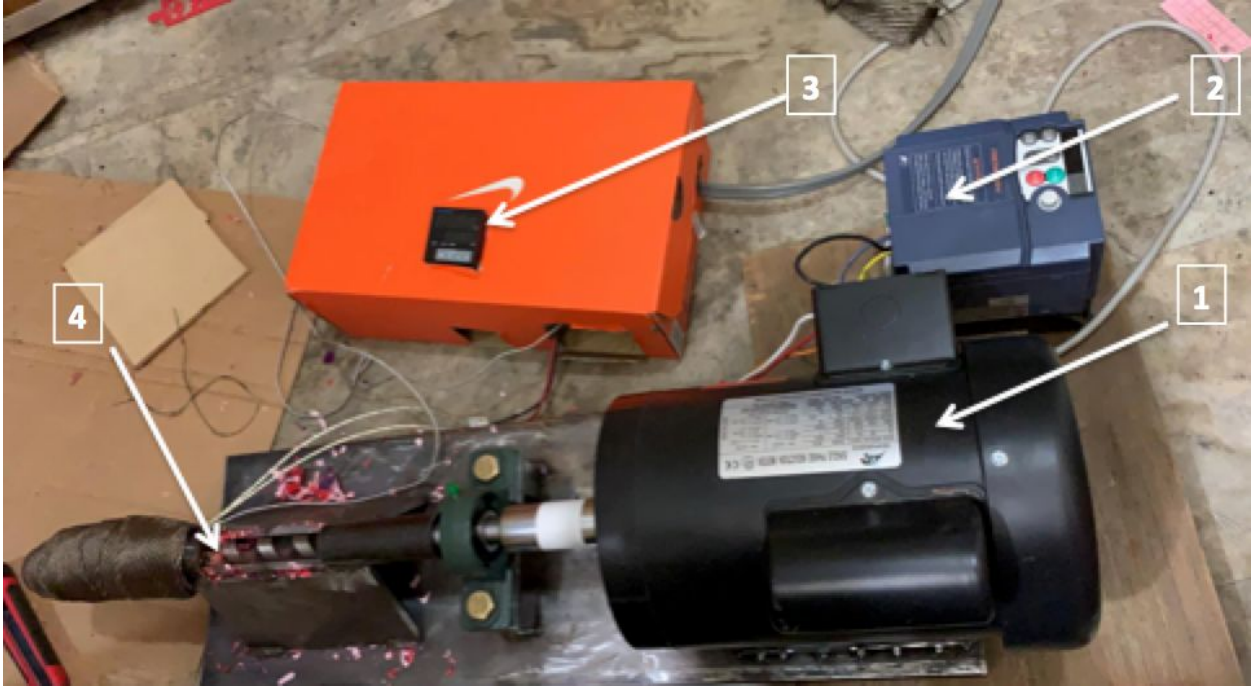

Figure 5. Extrusion components
- 1.5 hp single phase Ac motor. (Number 1 in figure 5).
- Auger bit with diameter of $\frac{3}{4}$ ". (number 4 in figure 5).
- PID controller. (number 3 in figure 5).
- A Variable Frequency Drive. (number 2 in figure 5).
These parts are used in the extrusion process to turn the shaft housing into a furnace where the plastic gets melted. Each one of those parts is essential in the heating process. We will need two 120V power sockets to plug in both the PID controller and the Variable Frequency Drive. The PID controller supplies the heat to the band heater and enables us to control the temperature of the band heating. The Solid-State Relay is going to be the switch that supplies the power and cuts it depending on the temperature set on the PID Controller. The Variable Frequency Drive will enable us to lower the speed at which the motor of the extruder operates at. The parts are connected as shown in figure 5 below. Switch the PID controller on and use the upper and lower arrow buttons to adjust the green reading of the temperature on the PID display screen then press set. Wait until the big red reading on the PID display screen reaches your desired temperature. Switch the VFD on and start increase the frequency until the extruder shaft